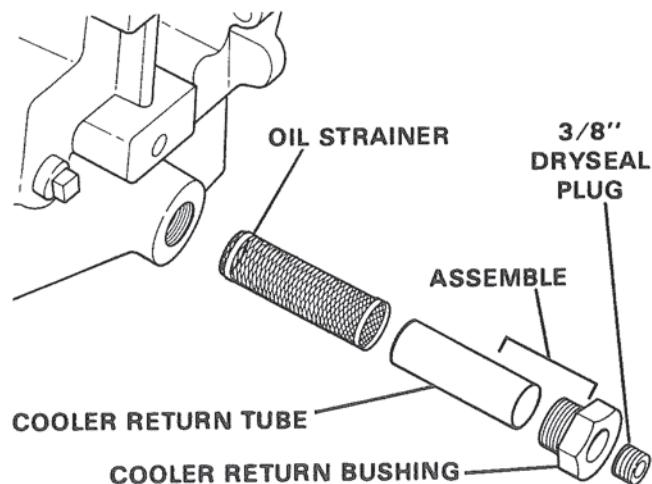

Figure 91. Installing Oil Strainer and Cooler Return Tube and Bushing Assembly.
1. Assemble the oil strainer assembly, cooler line return bushing and cooler return tube assembly in the order shown in Figure 91. The screen end of the oil strainer assembly should be approximately 1/2 in. below the face of the case when the assembly is correctly installed.
in this assembly, but has now been replaced with oil strainer 71C-A98A, which is fully interchangeable. The two bushings are not interchangeable and the correct parts must be assembled as illustrated in Figures 91 or 100. Those installations requiring the use of the parts in Figure 100 can be easily identified by the machined face on the case boss as indicated.